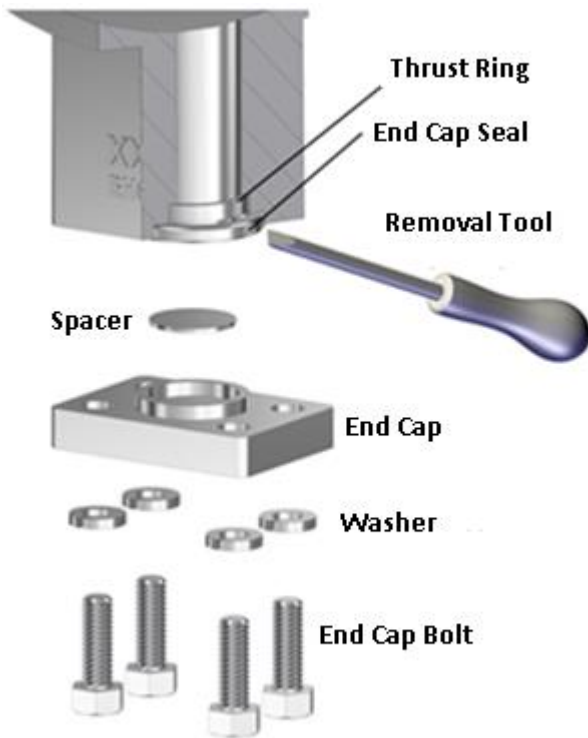

FIGURE 9. END CAP SEAL REPLACEMENT
1. Refer to Figure 9 for end cap seal and spacer replacement.